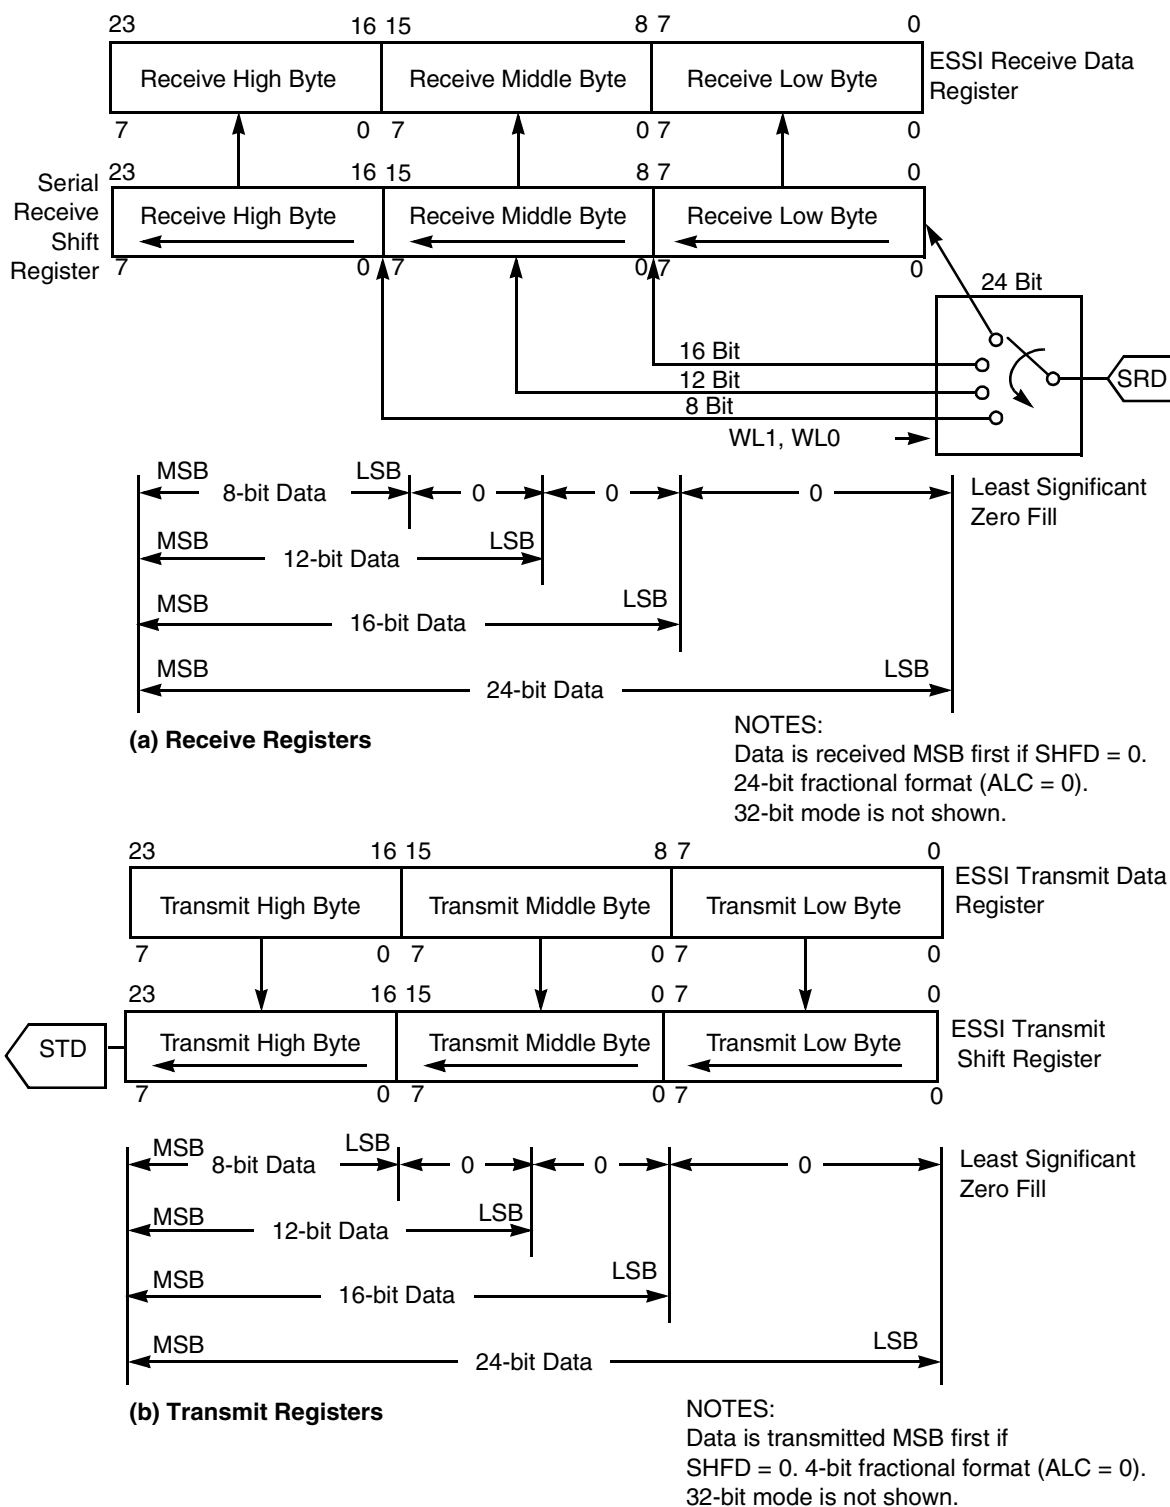
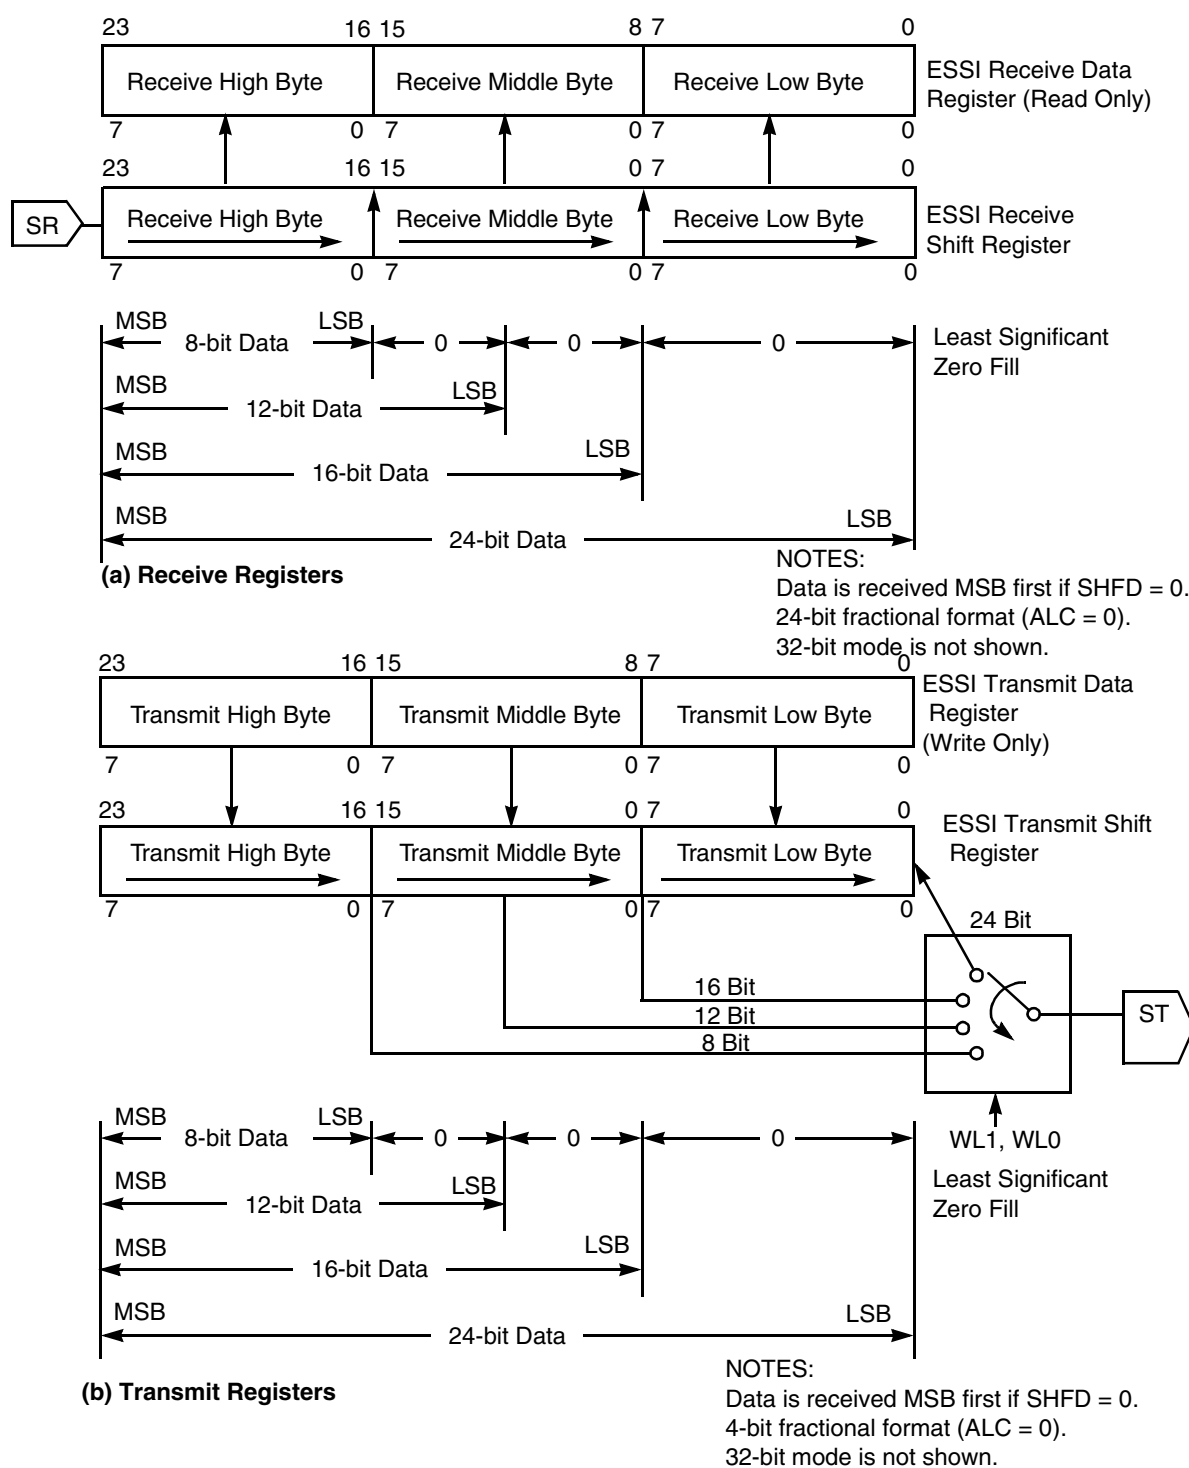

Figure 7-12. ESSI Data Path Programming Model (SHFD = 0)
Figure 7-13. ESSI Data Path Programming Model (SHFD = 1)
| 6 | SHFD | 0 | Shift Direction Determines the shift direction of the transmit or receive shift register. If SHFD is set, data is shifted in and out with the LSB first. If SHFD is cleared, data is shifted in and out with the MSB first, as in Figure 7-12, ESSI Data Path Programming Model (SHFD = 0) , on page 7-29 and Figure 7-13 on page -30. | | | |
The 24-bit Receive Shift Register (see **Figure 7-12** and **Figure 7-13**) receives incoming data from the serial receive data signal. The selected (internal/external) bit clock shifts data in when the associated frame sync I/O is asserted. Data is received MSB first if SHFD is cleared and LSB first if SHFD is set. Data transfers to the ESSI Receive Data Register (RX) after 8, 12, 16, 24, or 32 serial clock cycles are counted, depending on the word length control bits in the CRA.
7.5.5 ESSI Receive Data Register (RX)
The Receive Data Register (RX) is a 24-bit read-only register that accepts data from the receive shift register as it becomes full, according to **Figure 7-12** and **Figure 7-13**. The data read is aligned according to the value of the ALC bit. When the ALC bit is cleared, the MSB is bit 23, and the least significant byte is unused. When the ALC bit is set, the MSB is bit 15, and the most significant byte is unused. Unused bits are read as 0. If the associated interrupt is enabled, the DSP is interrupted whenever the RX register becomes full.
The three 24-bit transmit shift registers contain the data being transmitted, as in **Figure 7-12** and **Figure 7-13**. Data is shifted out to the serial transmit data signals by the selected (whether internal or external) bit clock when the associated frame sync I/O is asserted. The word-length control bits in CRA determine the number of bits that must be shifted out before the shift registers are considered empty and can be written again. Depending on the setting of the CRA, the number of bits to be shifted out can be 8, 12, 16, 24, or 32. Transmitted data is aligned according to the value of the ALC bit. When ALC is cleared, the MSB is Bit 23 and the least significant byte is unused. When ALC is set, the MSB is Bit 15 and the most significant byte is
TX2, TX1, and TX0 are 24-bit write-only registers. Data written into these registers automatically transfers to the transmit shift registers. (See **Figure 7-12** and **Figure 7-13**.) The data transmitted (8, 12, 16, or 24 bits) is aligned according to the value of the ALC bit. When the ALC bit is cleared, the MSB is Bit 23. When ALC is set, the MSB is Bit 15. If the transmit data register empty interrupt has been enabled, the DSP is interrupted whenever a transmit data register becomes empty.
TSMA and TSMB (as in **Figure 7-12** and **Figure 7-13**) can be seen as a single 32-bit register, TSM. Bit n in TSM (TSn) is an enable/disable control bit for transmission in slot number N. When TSn is cleared, all the data signals of the enabled transmitters are tri-stated during transmit time slot number N. The data still transfers from the enabled transmit data register(s) to the transmit shift register. However, the TDE and the TUE flags are not set. Consequently, during a disabled slot, no transmitter empty interrupt is generated. The DSP is interrupted only for enabled slots. Data written to the transmit data register when the transmitter empty interrupt request is serviced transmits in the next enabled transmit time slot. When TSn is set, the transmit sequence proceeds normally. Data transfers from the TX register to the shift register during slot number N, and the TDE flag is set. The TSM slot mask does not conflict with the TSR. Even if a slot is enabled in the TSM, you can chose to write to the TSR to tri-state the signals of the enabled transmitters during the next transmission slot. Setting the bits in the TSM affects the next frame transmission. The frame being transmitted is not affected by the new TSM setting. If the TSM is read, it shows the current setting.
RSMA and RSMB (as in **Figure 7-12** and **Figure 7-13**) can be seen as one 32-bit register, RSM. Bit n in RSM (RSn) is an enable/disable control bit for time slot number N. When RSn is cleared, all the data signals of the enabled receivers are tri-stated during time slot number N. Data transfers from the receive data register(s) to the receive shift register(s), but the RDF and ROE flags are not set. Consequently, during a disabled slot, no receiver full interrupt is generated. The DSP is interrupted only for enabled slots. When RSn is set, the receive sequence proceeds normally. Data is received during slot number N, and the RDF flag is set.